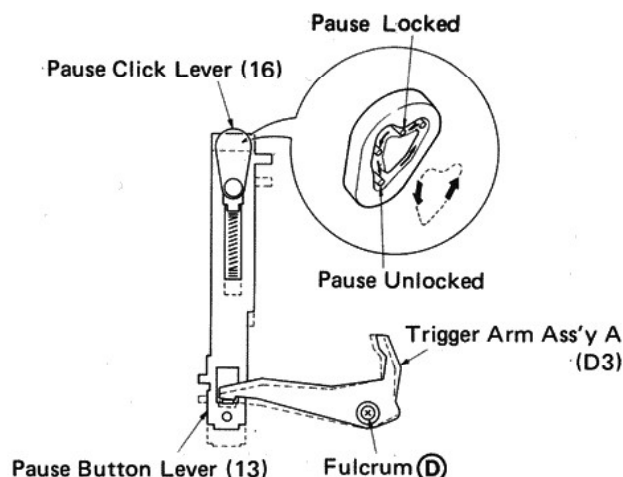

Fig. 10
The trigger arm assembly (D3) is locked and held by the pause button lever (13). (Fig. 10)
- Diagram illustrating the Locking Mechanism (Fig. 10). The mechanism includes a Sensing Lever (B16), Pulley (D18), Cam Gear (B20), Auto Lever (B28), Fulcrum (G), Play Button Lever (22), and Lock Arm (27). The diagram shows the interaction between these components, with arrows indicating the direction of movement and the locking action.